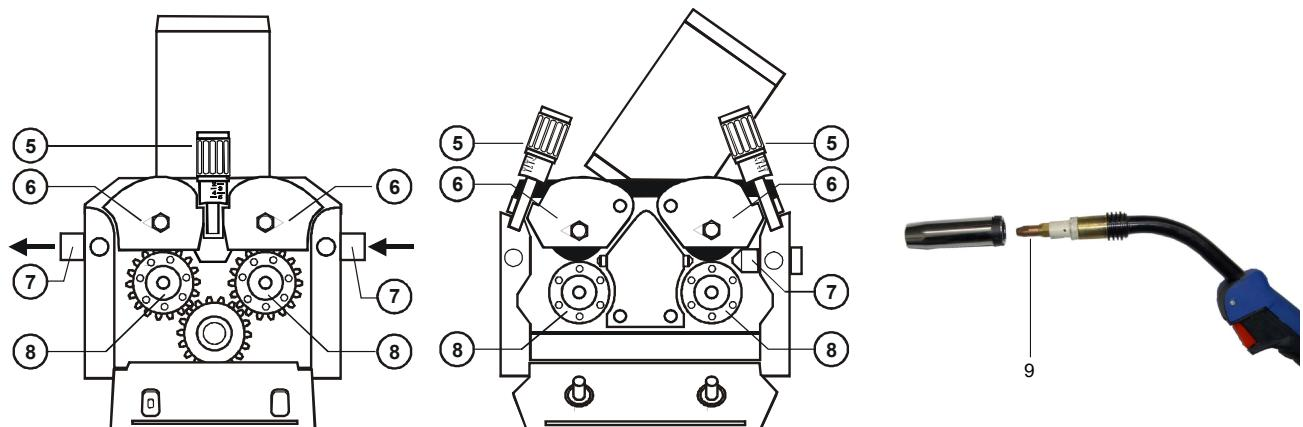

Fig.8 - 50W 4 roll motor
- The wire feeder rolls (8-fig.8&9) and the tip of the torch (9-fig.10) must correspond to the wire diameter.
- The wire must be manually conducted a few centimetres through the rolls (8-fig.8&9) and the wire guide (7-fig.8&9). After this, close the traction levers (6-fig.8&9) verifying that the correct positioning of the wire on the roll rend.